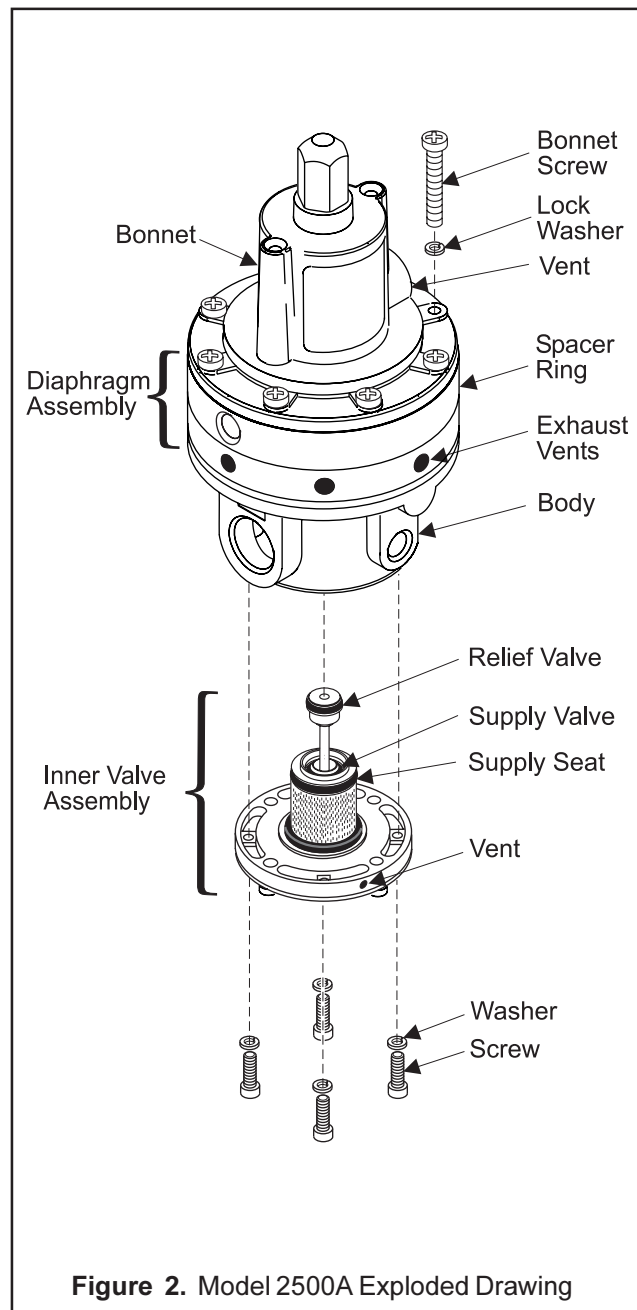

Figure 2. Model 2500A Exploded Drawing
2. Remove the four Screws and Washers (between ports) from the bottom of unit. For more information, see Figure 2.
3. Remove the Inner Valve Assembly. For more information, see Figure 2.
5. Replace the assembly carefully. Ensure that the Vent in the exterior part of the Inner Valve Assembly, the Vent in the Bonnet, and the Exhaust Vents in the Spacer Ring are clear. For more information, see Figure 2.